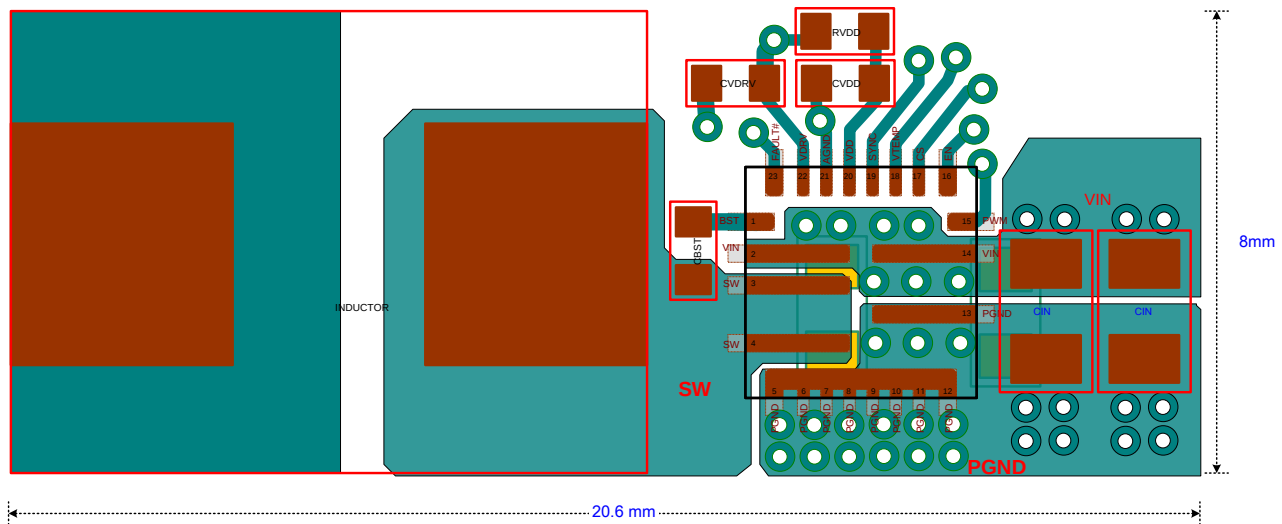

Figure 3: Example of PCB Layout (Placement & Top Layer PCB)
Efficient PCB layout is critical for stable operation. For best results, refer to Figure 3 and follow the guidelines below.
- Efficient PCB layout is critical for stable operation. For best results, refer to Figure 3 and follow the guidelines below.